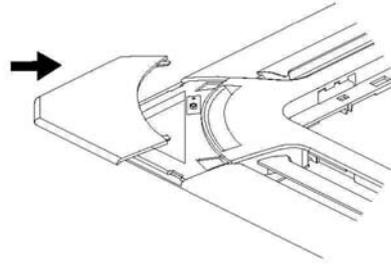

Fig. 10.6
6. Fasten the installation covers at all four corners by pushing them inwards. (See Fig. 10.6)